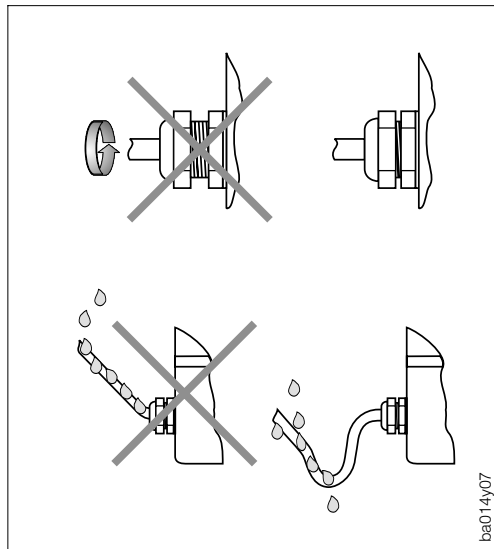

Fig. 4
- The cable gland must be firmly tightened (see Fig. 4).
- The cable must loop down before entering the cable gland to ensure that no moisture can enter it (see Fig. 4).